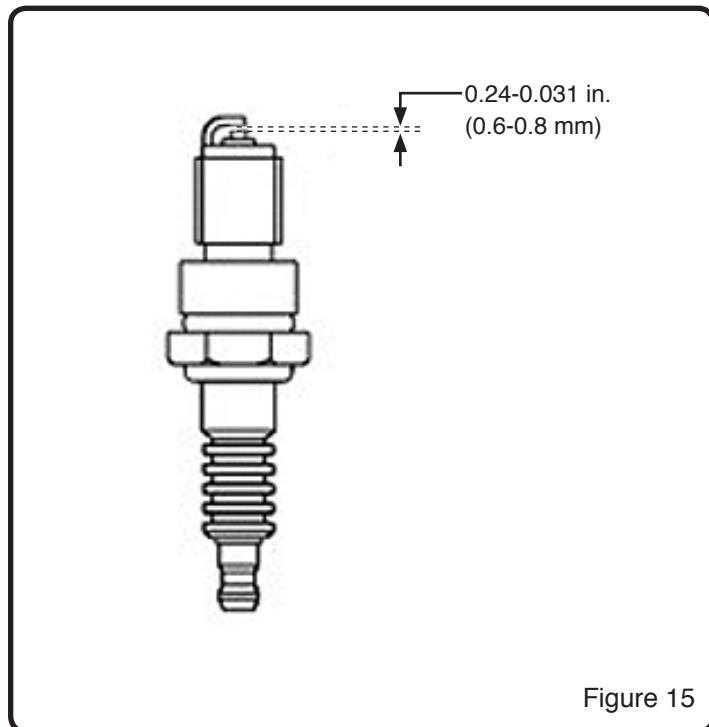

Figure 15
6. Check that the gap of the spark plug is 0.24-0.031 in. (0.6-0.8 mm). (Figure 15)